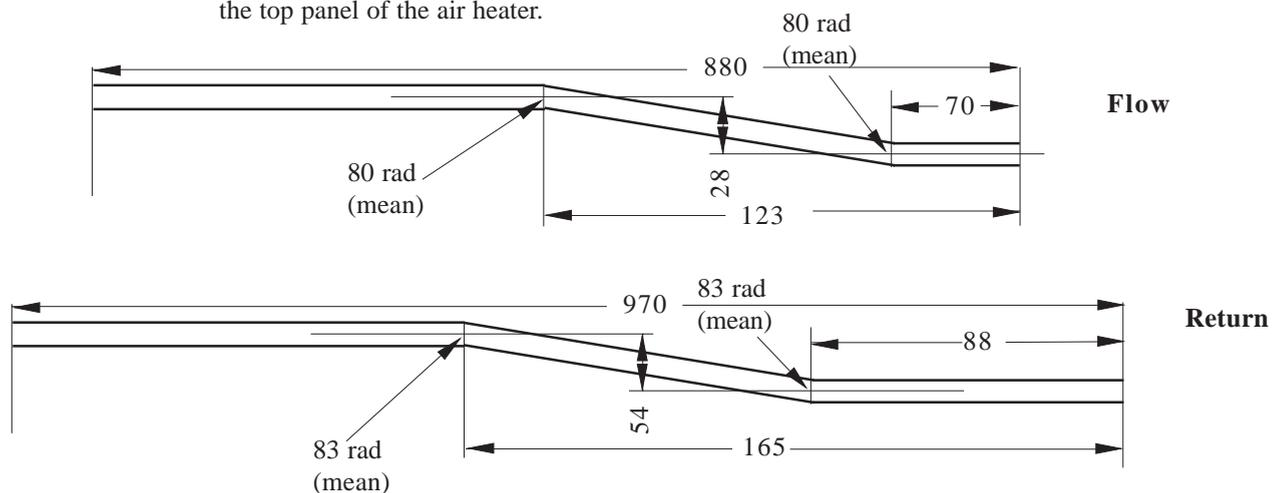

Fig. 2c
- i. Referring to Fig. 2c, perform suitable lengths of copper pipes as shown to fabricate the flow and return pipes.